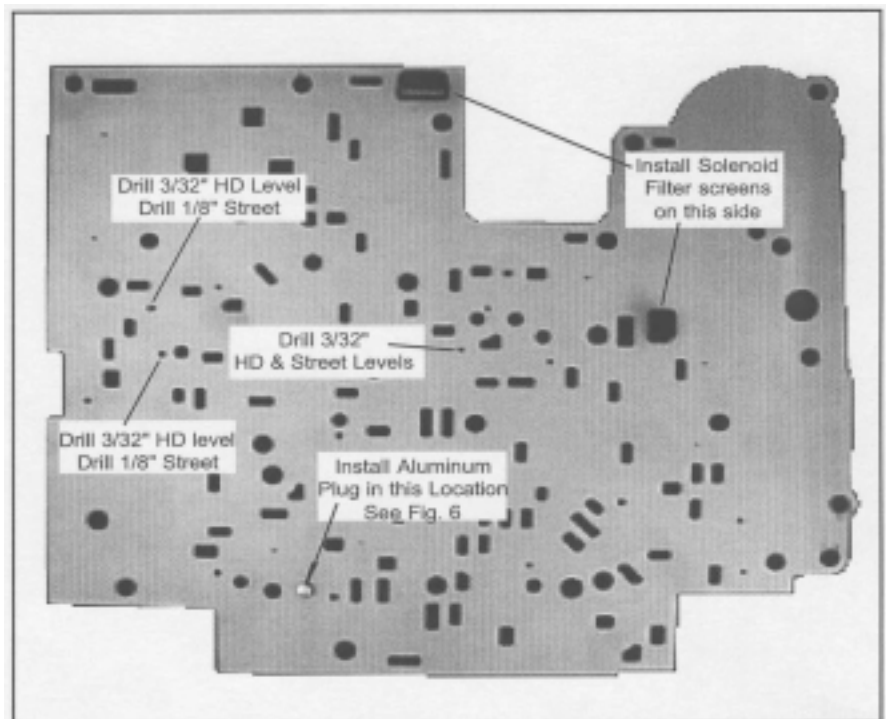

Figure 5. Separator Plate
STEP 8. Carefully remove the snap-in solenoid oil filters from the separator plate. Using the supplied drills, enlarge the holes in your separator plate as shown in (Fig. 5). Before drilling, mark the hole locations and drill size on the separator plate and double check them against the illustration. Make sure to use the correct drill size specified for
STEP 11. Snap new solenoid filters into separator plate (See Fig. 5). Make sure filters are on the correct side of separator plate, Place each new separator plate gasket on the separator plate and check to make sure no holes in the separator plate are covered by the gasket. Use petroleum jelly to stick gaskets to separator plate during installation. The gasket with the 'C' cut in it goes next to the case and the gasket with the